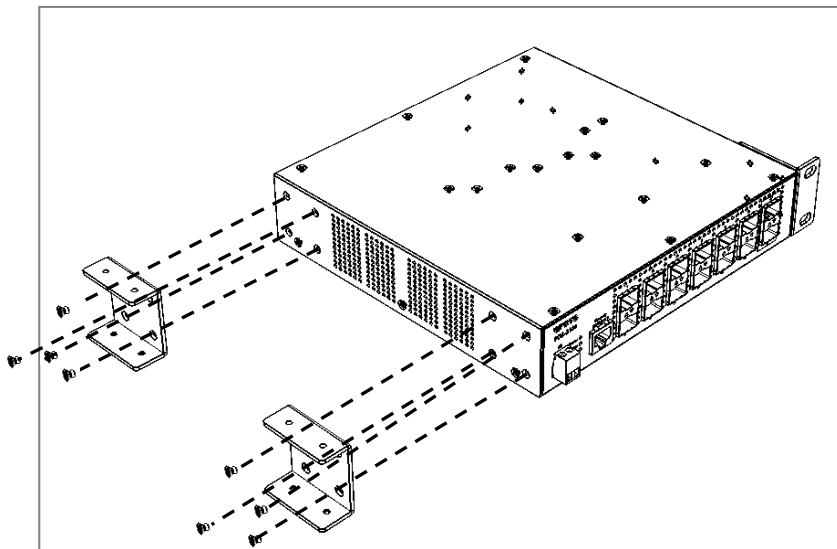

Figure 2-3. Install the L-shaped fixed pieces in the reverse direction for two-switch mounting
- 2.4.** On the left side of the switch, attach one L-shaped fixed piece in the reverse direction by inserting the screws provided in the combine kit through this fixed piece and into the mounting holes in the switch. (See Figure 2-3)
- 2.5.** Repeat the same manners as we had mentioned in Step 2.4 to install another L-shaped fixed piece on the same side of the switch. (See Figure 2-3)